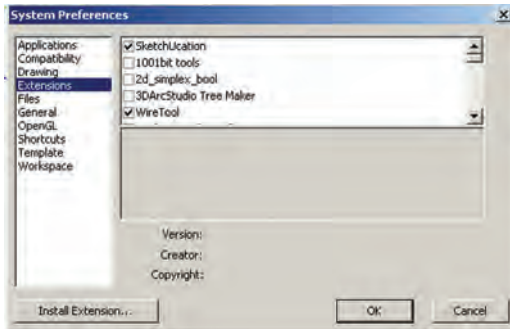

Fig. 5-10: You can install some extensions by selecting Preferences ➤ Extensions.
- ▶ By selecting SketchUp Preferences ➤ Extensions (Fig. 5-10)